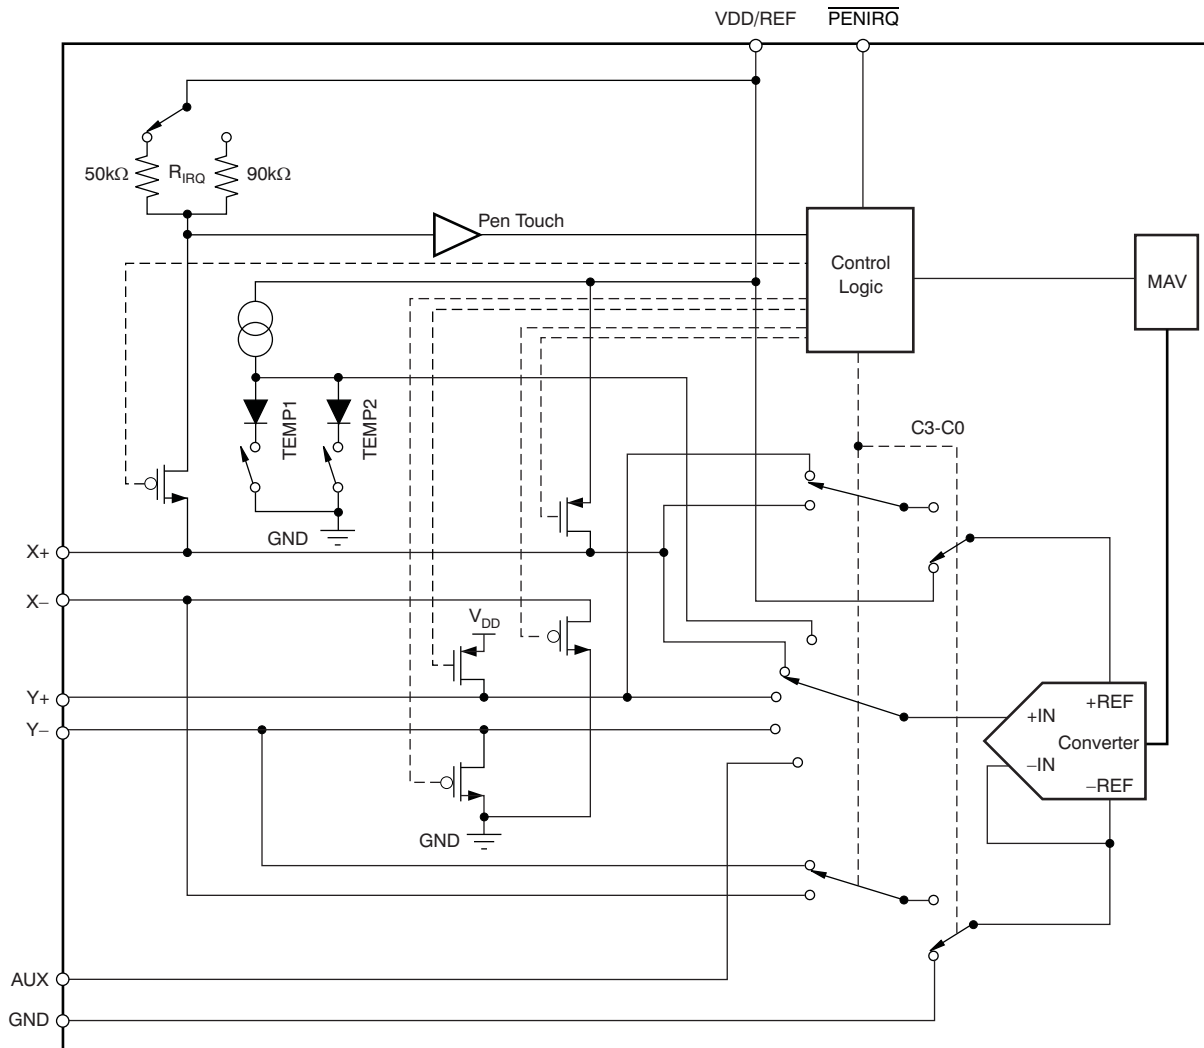

Figure 23. Simplified Diagram of the Analog Input Section
Figure 23 shows the analog inputs of the TSC2007. The analog inputs (X, Y, and Z touch panel coordinates, chip temperature and auxiliary inputs) are provided via a multiplexer to the Successive Approximation Register (SAR) Analog-to-Digital (A/D) converter. The A/D architecture is based on capacitive redistribution architecture, which inherently includes a sample-and-hold function.
- (1) Reference voltage at converter: +REF – (–REF). See Figure 23.
- (2) Input voltage at converter, after multiplexer: +IN – (–IN). See Figure 23.